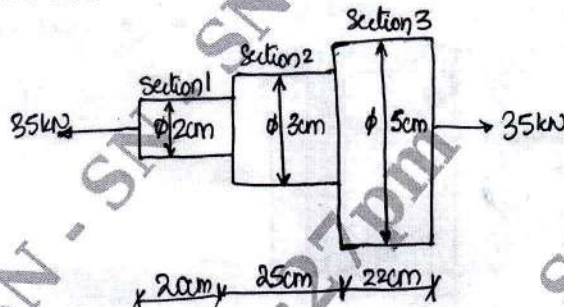

Fig. Q2 (b)
b. An axial pull of 35 kN is acting on a bar consisting of 3 lengths as shown in Fig. Q2 (b). If young's modulus =  $2.1 \times 10^5 \text{ N/mm}^2$ . Determine : (i) Stresses in each section and (ii) Total extension of the bar.